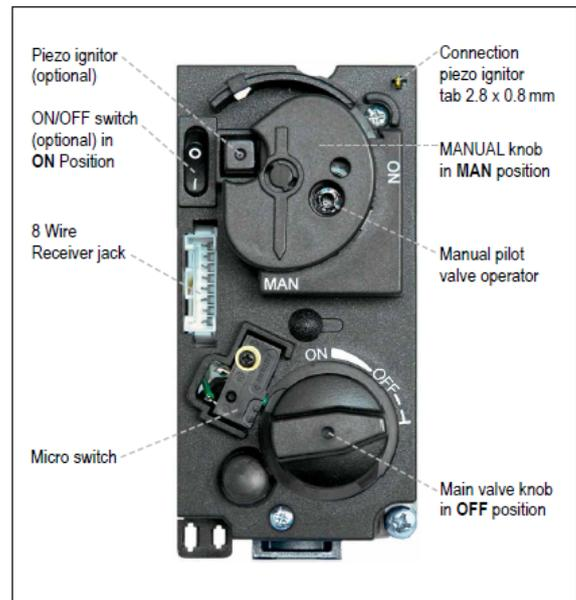

Figure 24: Combination control, cover
5. Wait five (5) minutes to clear out any gas. Verify that no gas is in the area around the appliance, including near the floor. **If you detect gas STOP! Follow “WHAT TO DO IF YOU SMELL GAS” in the safety information on page 3.** If no gas is present, proceed to step 6.
8. Fully push down manual pilot valve operator and hold in, to start pilot gas flow (see figure 24).
Change the ignition cable from the receiver to the valve (see figure 24). Push in the piezo ignitor to ignite. If pilot does not stay lit, wait five (5) minutes and repeat.